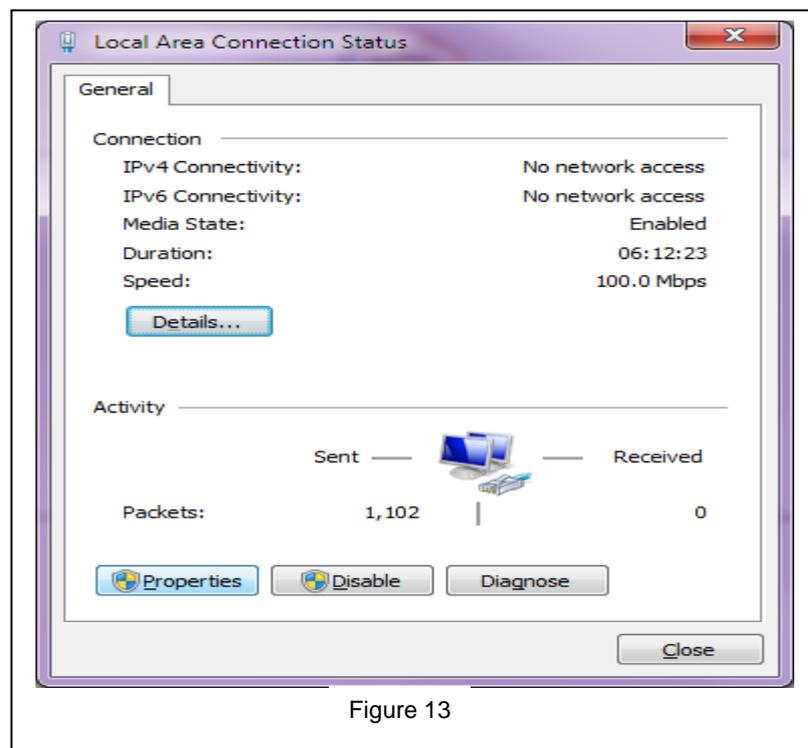

Figure 13
**13.4** After click “Local Area Connection”, new window appears as Figure 7, then click “Properties” button to enter properties window. See Figure 13.